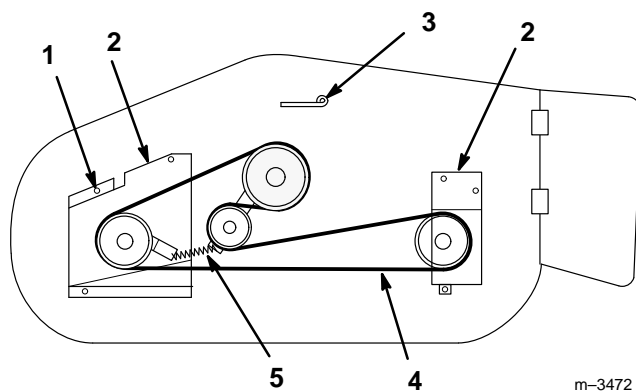

Figure 37
2. Remove the pulley cover mounting screws and pulley covers from the blade pulleys (Fig. 37).
3. Release the spring (Fig. 37).
4. Remove the belt from the pulleys (Fig. 37).
2. Attach the spring (Fig. 37).
3. Install the left and right pulley covers with the mounting screws (Fig. 37).